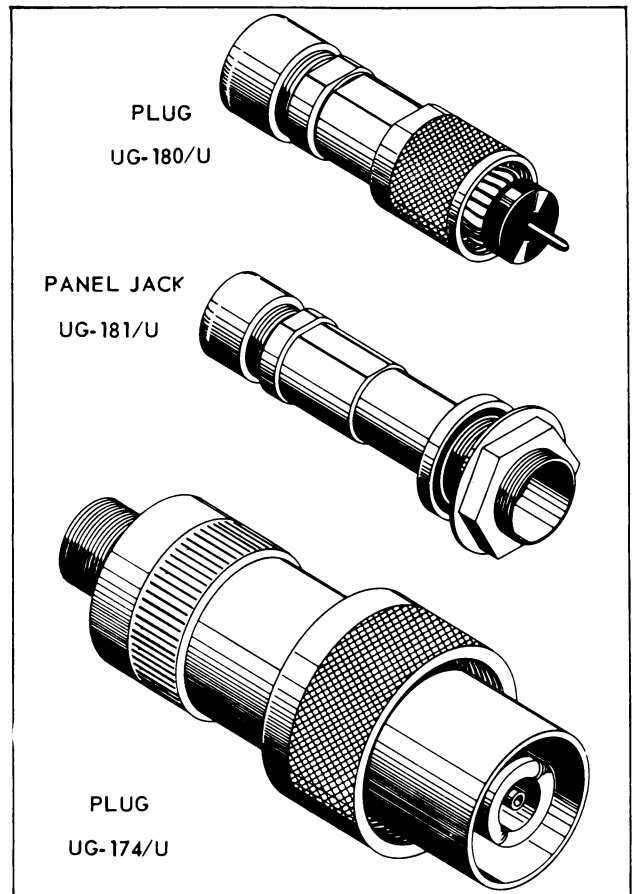

Figure 4-5. Typical Pulse Connectors
e. Pulse Series. See Figure 4-5. A high-voltage connector for pulse or dc applications. Designed for use with rubber-dielectric pulse cables, but may be used with equivalent-size cables of other construction